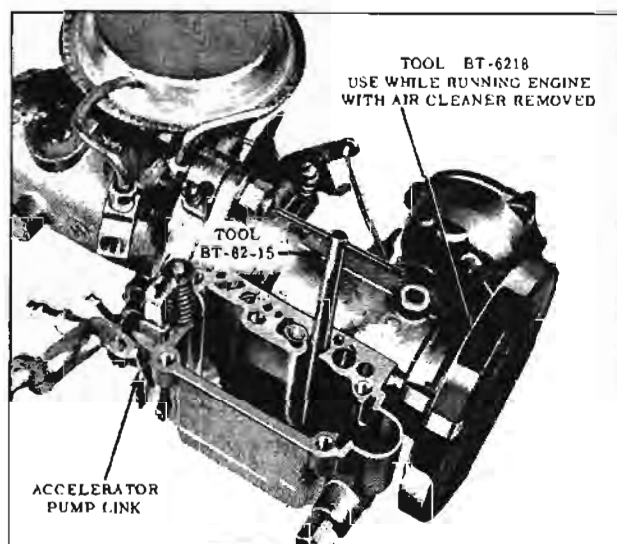

Fig. 9-126 Bowl Assembly
5. Install main metering jet, if removed, using special main metering jet Tool BT-62-15 (Fig. 9-126). Then install metering rod guide